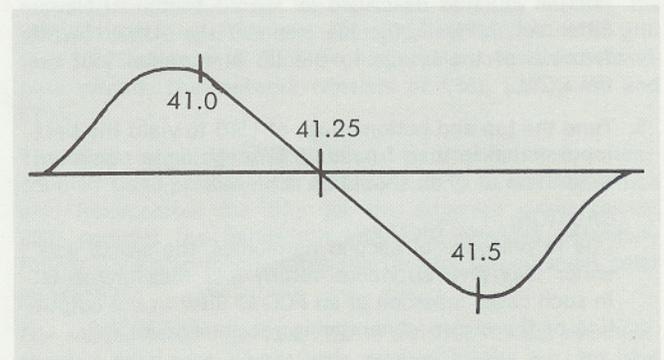

Fig. 9—Response Curve (T201 adjustment)
11. Now adjust top and bottom of T201 for response curve shown in fig. 9; adjust for maximum amplitude with equal displacement above and below the base line.